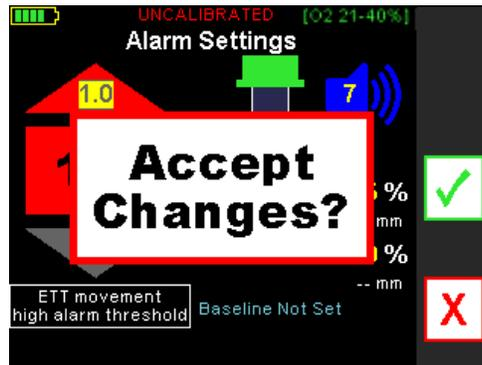

Figure E-11
- ◆ When exiting the screen (usually by using the **Return Arrow**  function button), the system prompts to accept or cancel any changes (see Figure E-11).